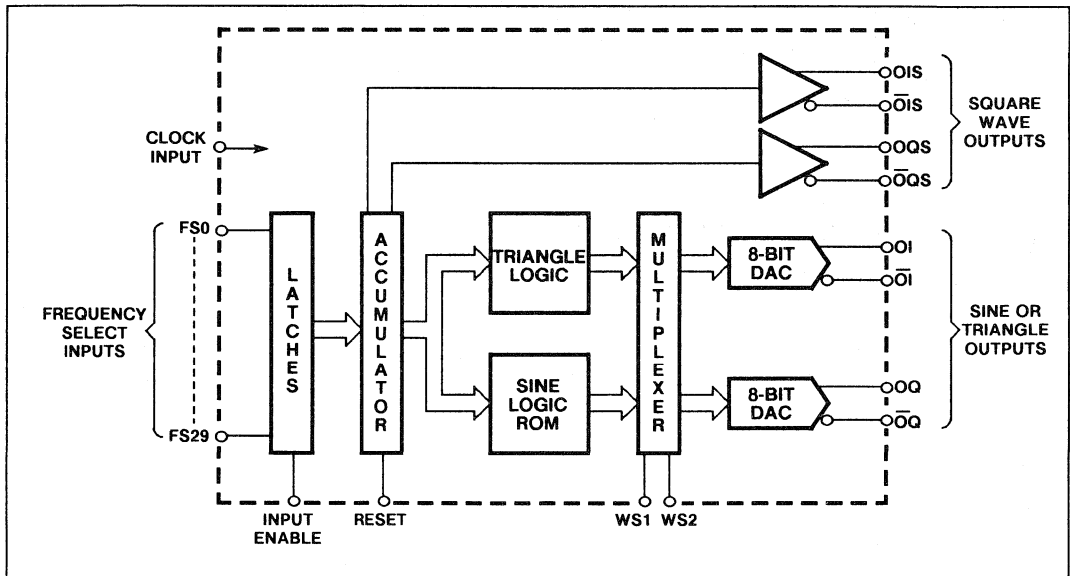

Fig. 2 SP2002 direct frequency synthesiser block diagram
(1) The power taken by the synthesiser depends upon the 'Waveform Select' inputs (see Fig. 2). The  $I_{EE}$  current quoted is for the square wave plus sine wave 'I' and 'Q' outputs where all the SP2002 circuitry is powered up. The output waveform options and associated  $I_{EE}$  currents are shown in Table 1. (2) The SP2002 will operate at any clock frequency below 1.6 GHz e.g. at  $f_C = 214\text{MHz}$ , output frequency range = 0.1Hz to 50MHz in steps of 0.1Hz. (3) Levels refer to the highest rather than total spurious power. A sine wave output and clock frequency of 1.6 GHz is assumed. These figures will degrade by 10 to 20dB for triangle and 20 to 30dB for square wave output. (4) Minimum figure assumes only MSB Frequency Set Input is changed. Maximum figure assumes LSB Frequency Set Input is changed. (5) A suitable heatsink should be attached to the studs on the top of the package. (6) Assuming no spurious output at the offset frequency.
Referring to the block diagram of Fig. 2, Waveform Select (WS) pins are provided to enable programming of different output waveform combinations by hard-wiring to the supplies as shown (see Table 1). Depending on the output option chosen, unused circuitry on-chip is automatically turned off to conserve power.
Referring to Fig. 2, the basic operation is as follows. Frequency Set data is entered via the data latches to an accumulator which is incremented by the clock input.